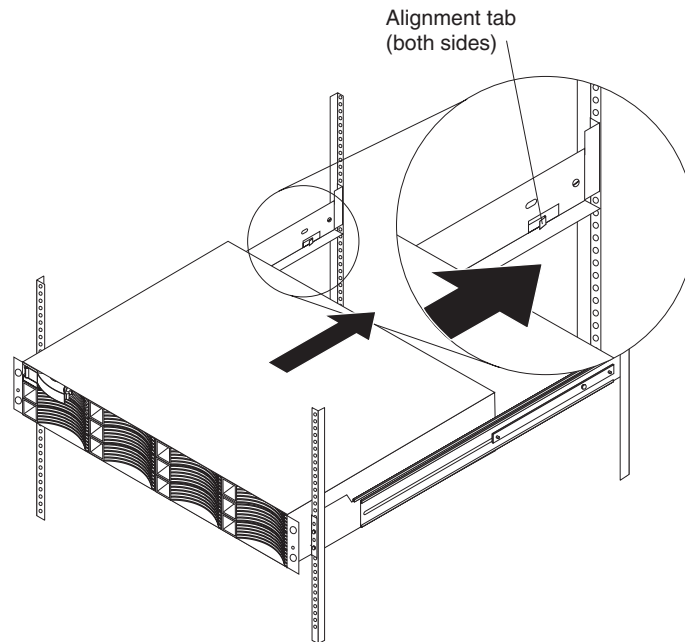
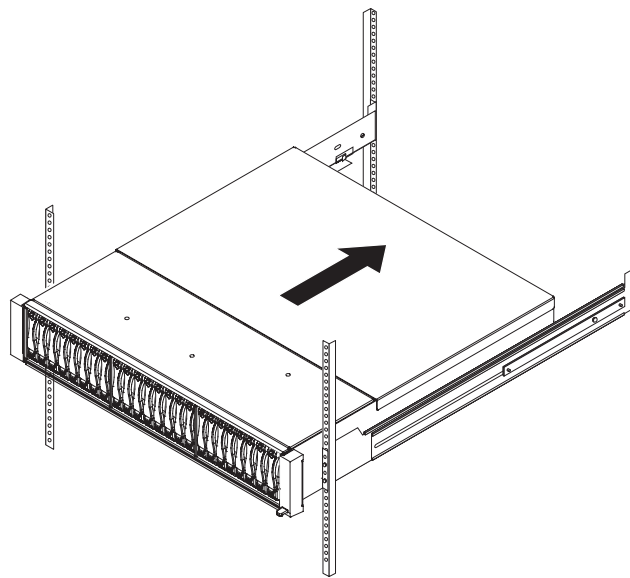

Figure 9. Positioning a DS3512 or EXP3512 in a rack
Figure 10. Positioning a DS3524 or EXP3524 in a rack
2. Slide the rear of the storage subsystem or expansion enclosure onto the support rails as shown for the DS3512 and EXP3512 in Figure 9, and for the DS3524 and EXP3524 in Figure 10.